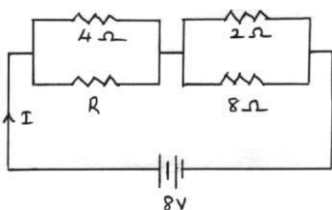

Fig.5
13. Find the unknown resistor R where power consumed by the network is 16W for the network shown in fig.5.